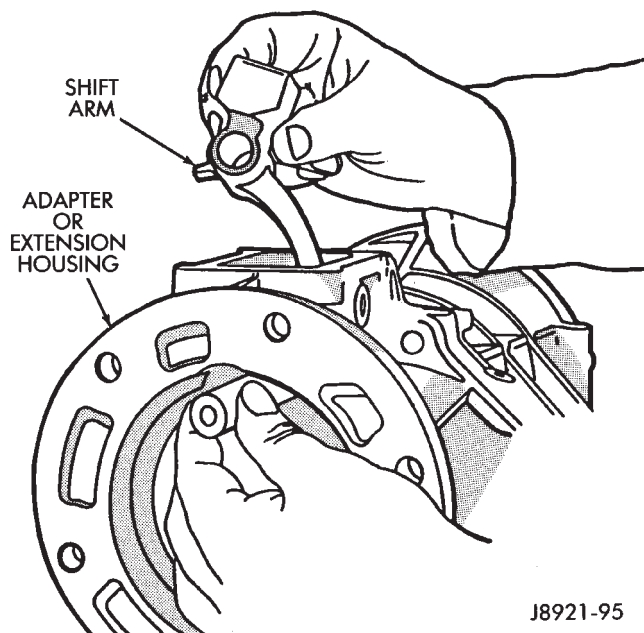
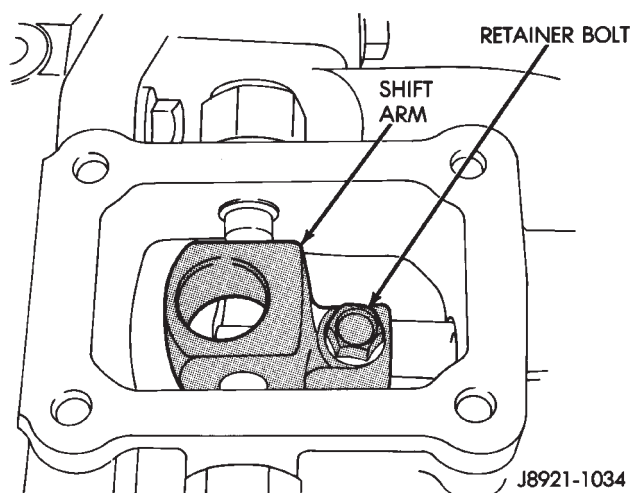

Fig. 40 Install Shifter Arm Shaft
Fig. 41 Install Shift Arm Retainer Bolt
(11) Start shifter arm shaft in hole in back of adapter or extension housing. Align shift arm and shifter arm shaft and insert shifter arm shaft through the shifter arm and into the forward portion of the adapter or extension housing (Fig. 40).
(12) Rotate the shifter arm until the hole in the shift arm is aligned with the hole in the shaft.
(13) Install the shift arm retainer bolt and tighten to 38 N·m (28 ft. lbs.) (Fig. 41).